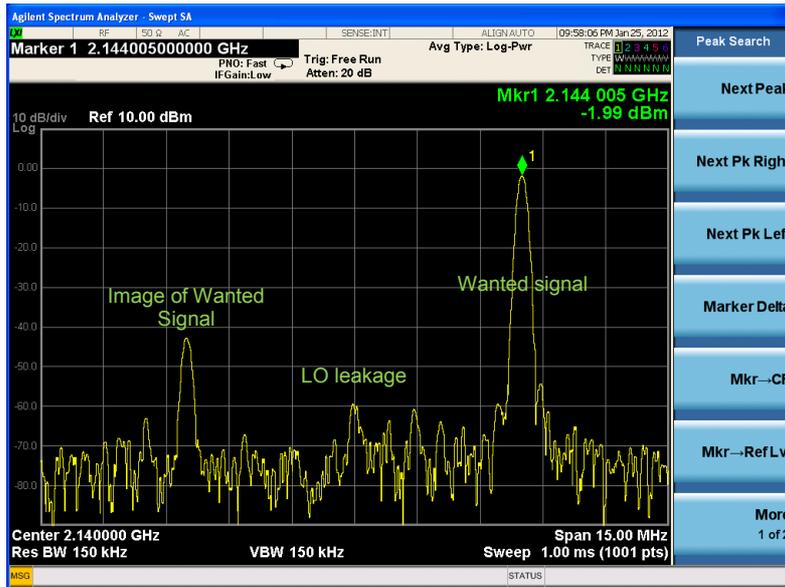

Figure 9 Transmitter Output, when NCO ALT 4MHz is Selected
Block diagram of the example test system is shown in Figure 9. There two continuous wave (CW) data sources implemented in this example to feed LMS6002D I and Q DACs (IQ interface) and test the transmitter chain: